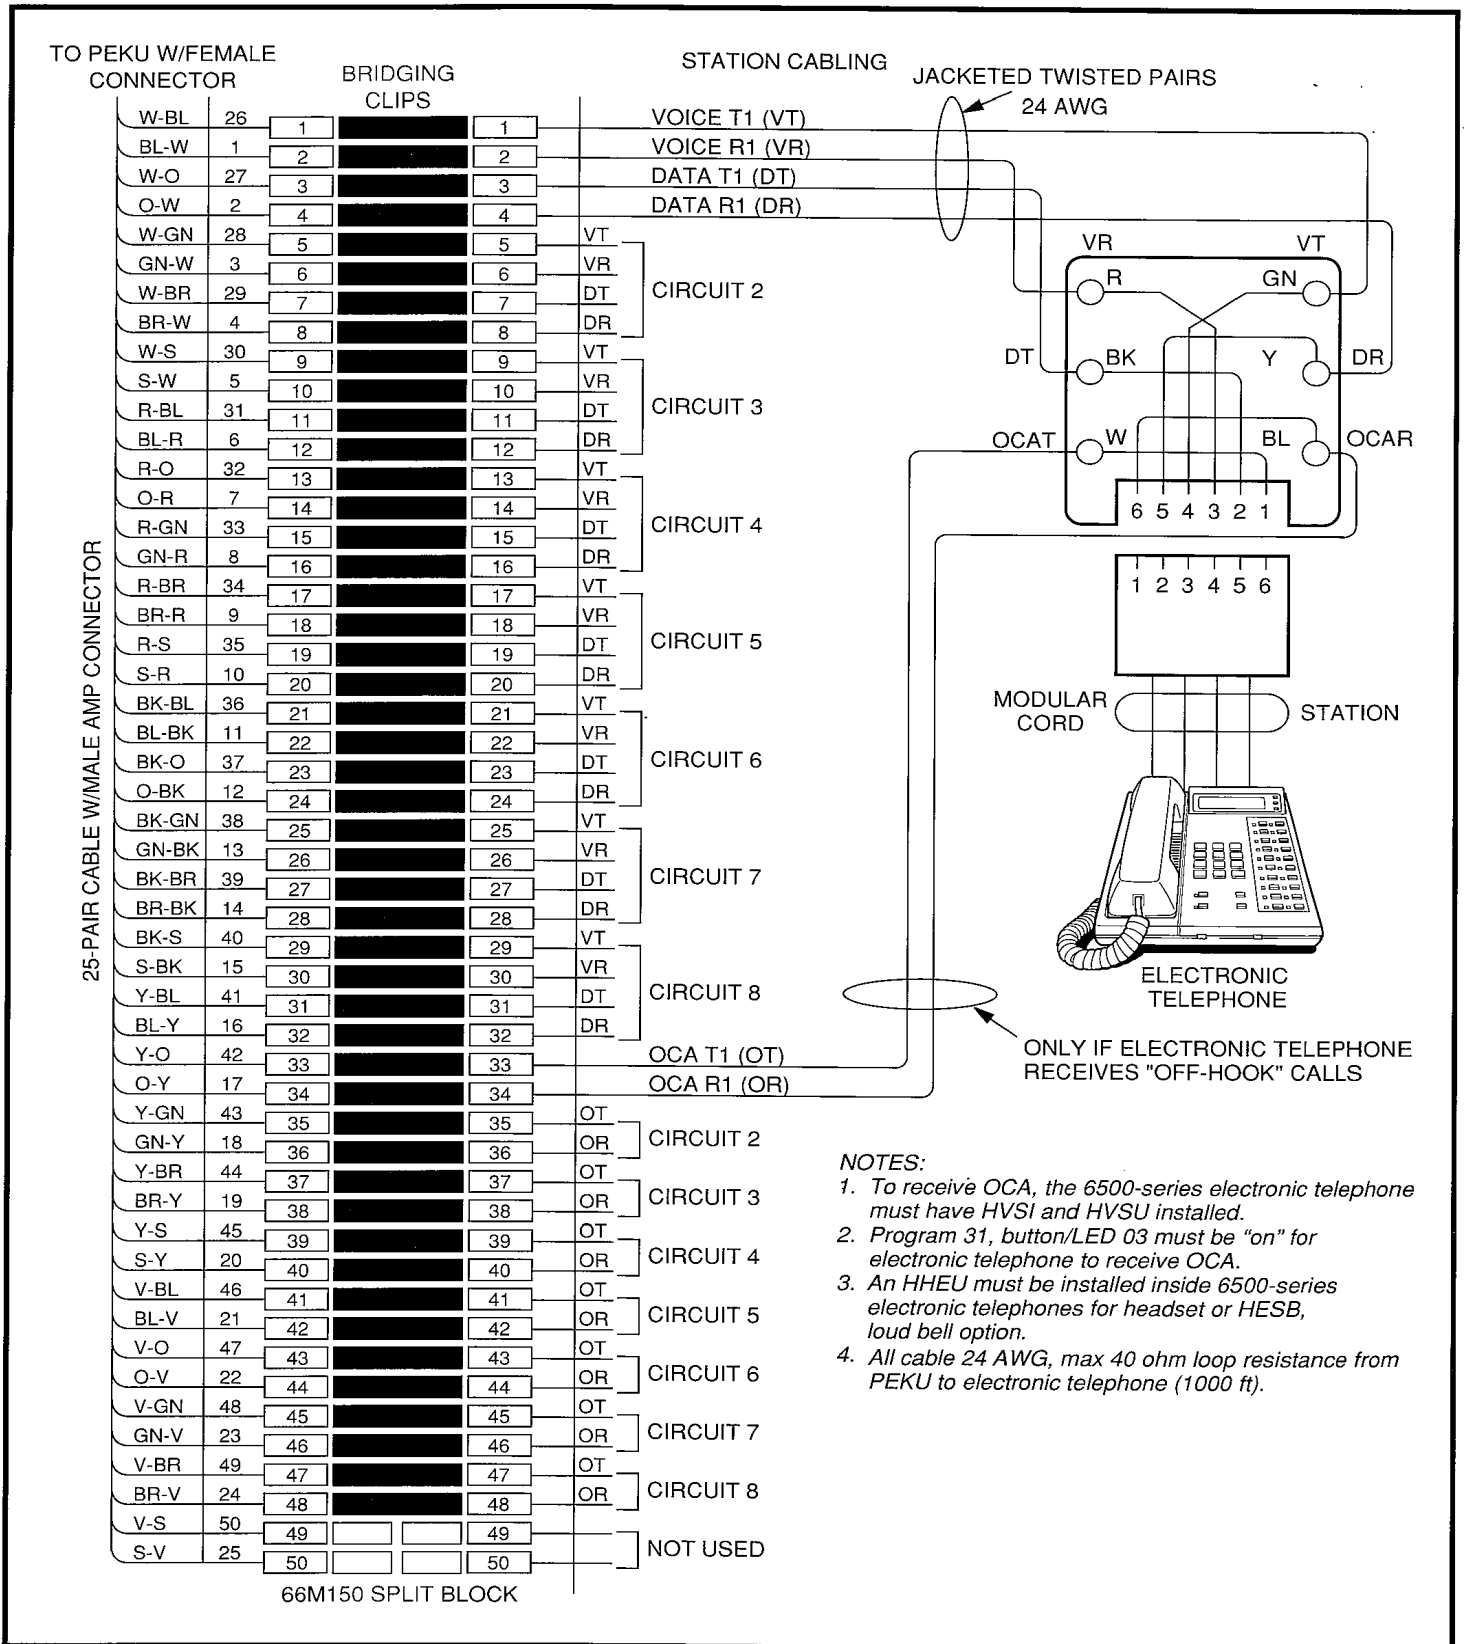

FIGURE 9-1—MDF WIRING/ELECTRONIC TELEPHONE TO PEKU
- Figure 9-1—MDF Wiring/Electronic Telephone to PEKU